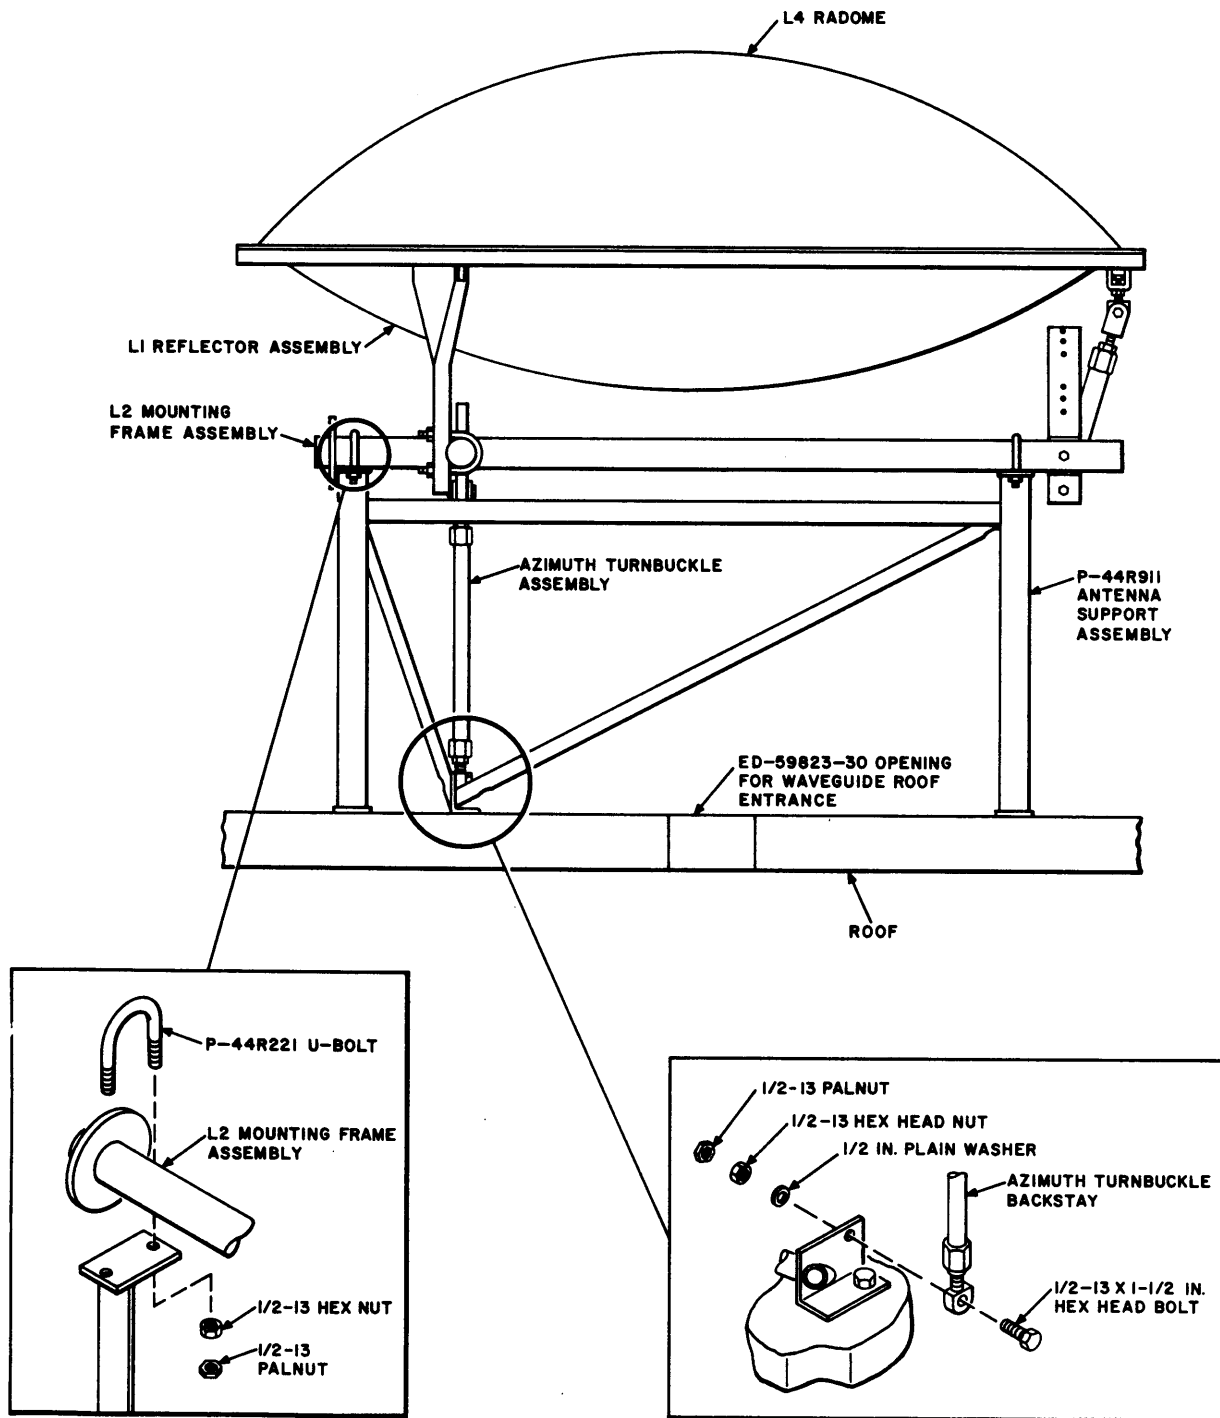

Fig. 17—ED-59804-30 Roof Mounting, Installation Procedure for Antenna
**5.55** Position the antenna mounting frame assembly upon the antenna support assembly with the collar on the mounting frame assembly flush with the edge of the flange on the antenna support assembly. Secure with two P-48R221 U-bolts, four 1/2-13 hex nuts, and four Palnuts as shown in Fig. 17.
1/2-13 x 1-1/2 hex head bolt, 1/2 plain washer, 1/2-13 jam hex nut, and Palnut as shown in Fig. 17.